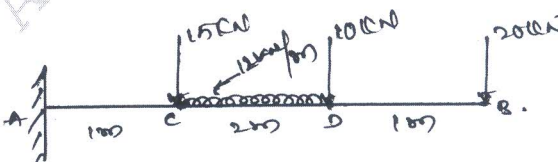

Fig Q5(c)
c. A cantilever beam carries UDL and point loads as shown in Fig Q5(c). Draw SFD and BMD.